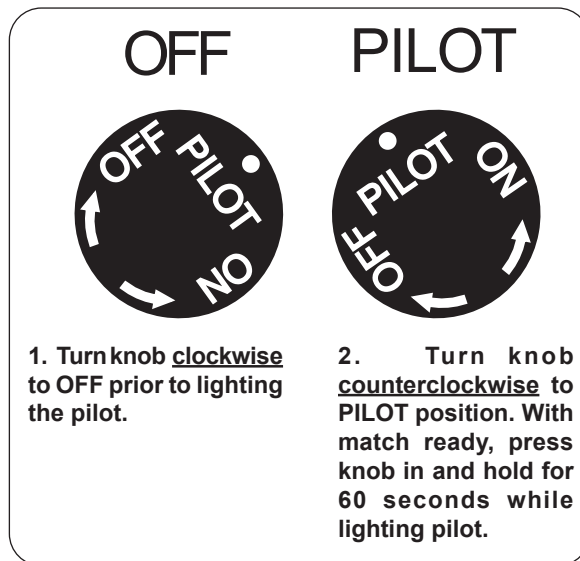

Fig. 10-1 Control knob detail (OFF, PILOT)
1. Locate the valve on the side of the unit. Push in the gas control knob slightly and turn clockwise to **OFF** (Fig. 10-1).
2. Turn the control knob counterclockwise to **PILOT** (Fig. 10-1). Push the control knob **firmly and fully** in and hold. Hold a long fireplace match or lighter near the thermocouple to light the pilot. Continue to hold the control knob in for approximately 60 seconds after the pilot is lit, then release the knob. The pilot will remain lit.